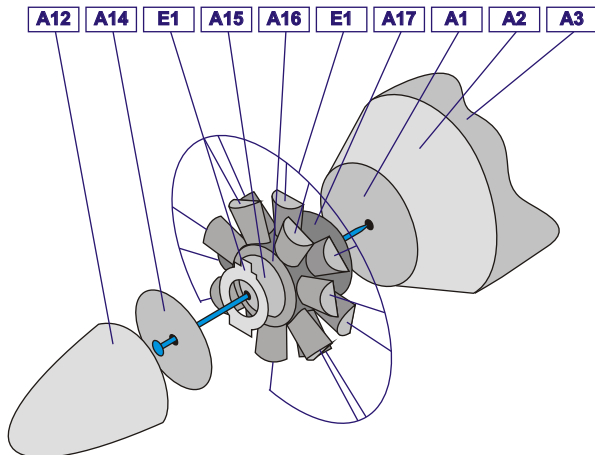

Fig. 3
7. Fix the base of the propeller using a metal pin. The assembly is shown on Fig.3. It is glued on the nose of the fuselage at the marked spot on element A1.